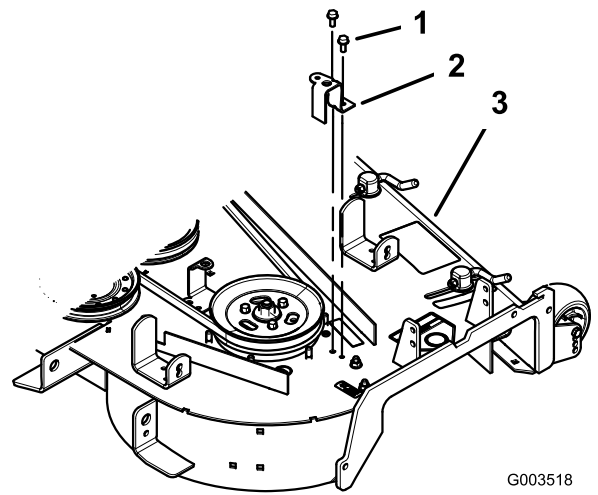

Figure 3
3. Remove the outside right belt cover bracket (Figure 3).